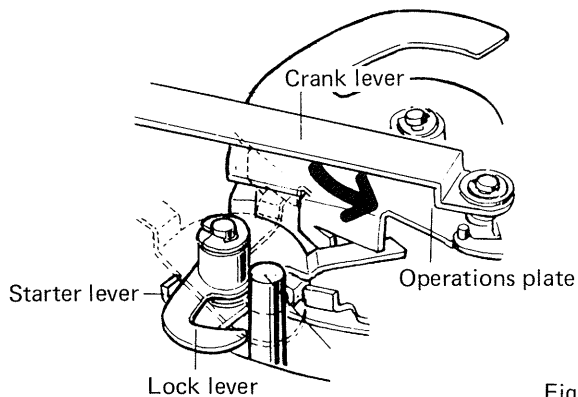

Fig. 7
6. Although the starter lever stops, the operations plate continues to rotate, releasing the lock lever from the PU plate shaft (Fig. 7).